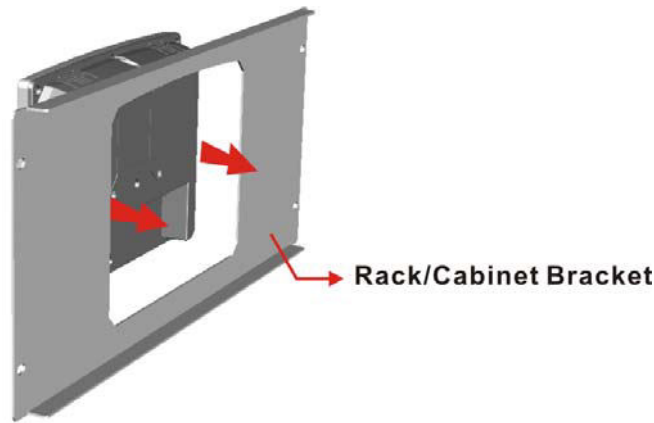

Figure 3-15: Rack/Cabinet Bracket Installation
- Step 1:** Slide the rear chassis of the AFL3-W07A-BT flat bezel panel PC through the rack/cabinet bracket until the frame is flush against the front of the bracket (**Figure 3-15**).